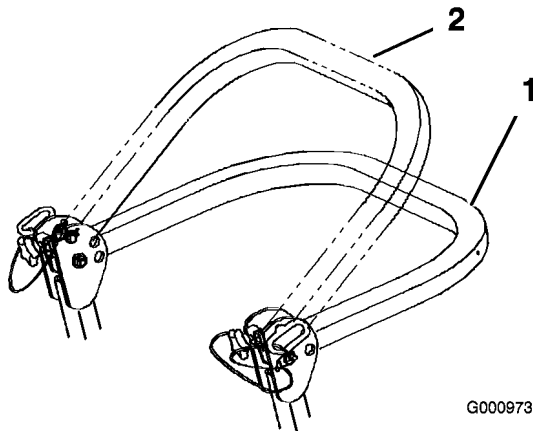

Figure 6
3. Lower the roll bar to the down position. There are two down positions. See Figure 6 for the positions.